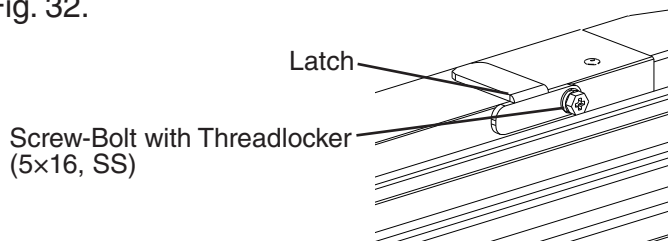

**Fig. 30**
- 8) Remove the door latch from the lower door. See Fig. 30.